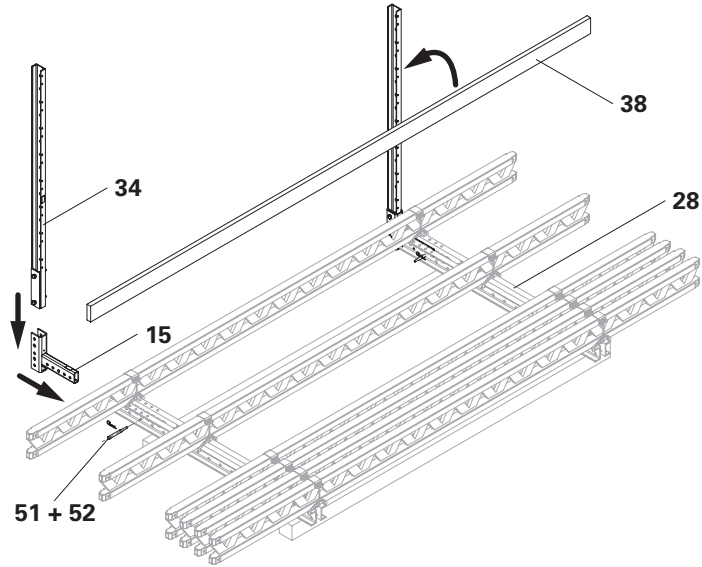

Fig. B4.03
3. Fasten Elbow Connections RCS/SRU (15) to the Steel Walers Universal SRU (28) with two fitting pins $\varnothing 21 \times 120$ (51) and secure with cotter pins (52).
4. Screw Guardrail Posts RCS 226 (34) tightly onto the Elbow Connections RCS/SRU (15).
5. Screw handrail boards (38) onto the Guardrail Posts RCS (34) with round head bolts M8 x 70 (60) and nuts M8 (61).
- (Fig. B4.03)